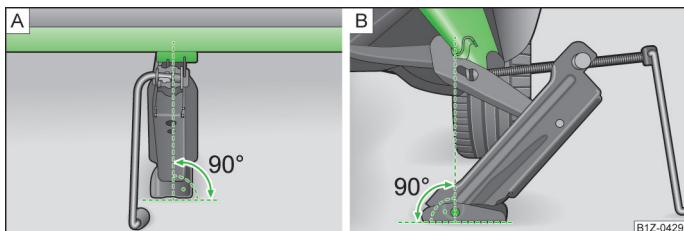

Fig. 80 Jack applied at rear left side of the vehicle
-  Make sure that foot of the jack is firmly seated on the ground and that the foot of the jack is precisely below the jacking point  **» fig. 80**.
-  Align the jack and continue cranking up the jack leg until the claw fits around the strut below the vehicle  **» fig. 80** (arrow).
-  Only apply the jack at the positions described. The claw on the jack must securely fit around the strut on the side member  **» fig. 80**.